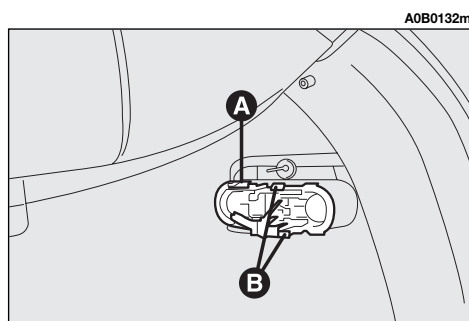

fig. 52
- Remove the bulb holder unit (**A-fig. 52**) pressing on the retainer tab (**B-fig. 52**).
- Reinsert the bulb holder unit fitting the retainer tabs correctly (**B-fig. 52**).